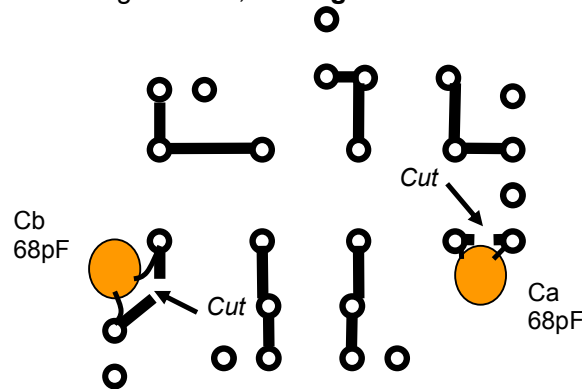

Fig. 2 Track cuts and Ca, Cb positions.
This improved version of the Cohn filter requires series end capacitors to be installed between the filter and the matching transformers. Two tracks between T3 and X1, and X6 and T4 are cut and bridged by 68pF ceramic capacitors Ca and Cb. Cut the tracks before assembling the filter, see Fig.2 below. **Do not fit Ca, Cb at this stage!**
**Ca and Cb.** Once T2 and T3 have been installed, solder 68pF ceramics Ca and Cb as shown in **Fig.2**.